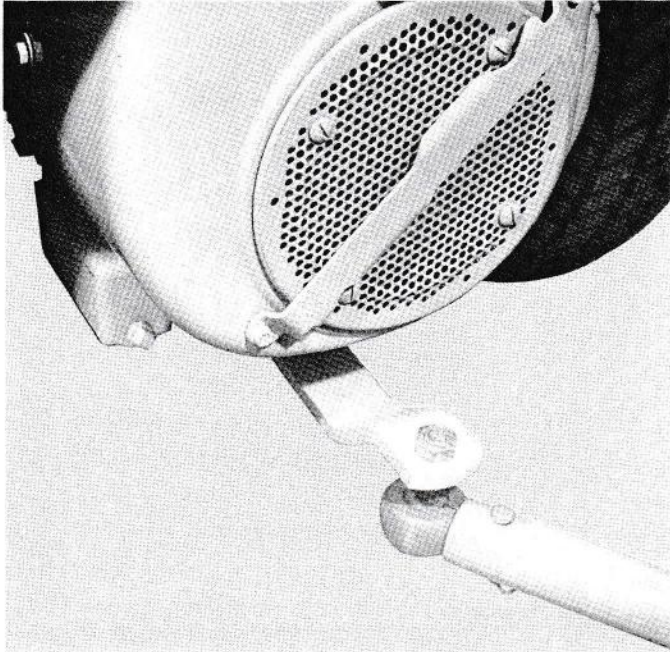

FIGURE 11
2. Place split sockets around ball stud. Insert extensions of split sockets into tongue of attachment. Line up holes, secure in place with pin and clip pin (See Figure 11).